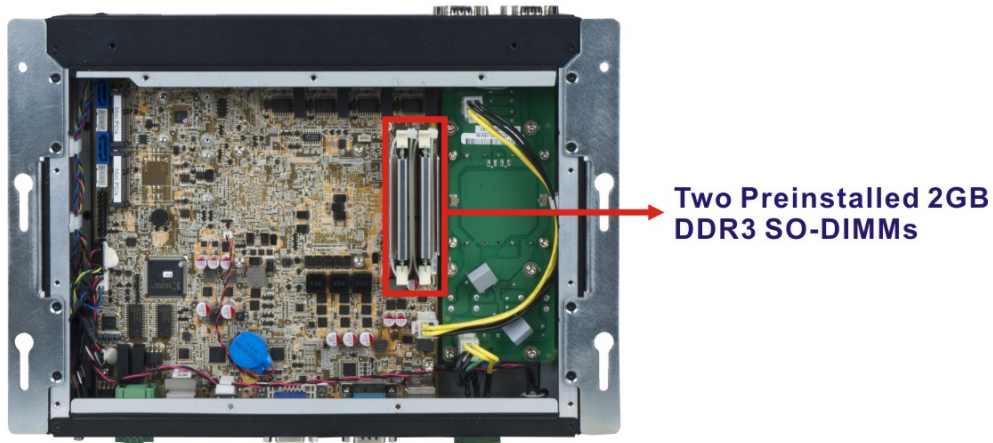

Figure 6-3: SO-DIMM Locations
Step 3: Locate the SO-DIMM. (Figure 6-3).